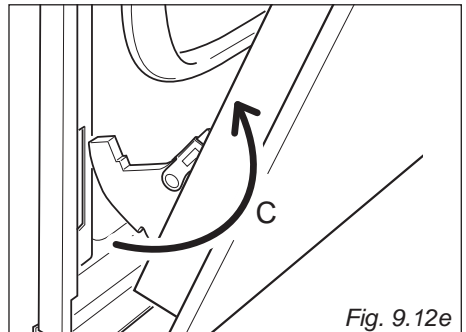

Fig. 9.12e
- Withdraw the hinge hooks from their location following arrow "C" (fig. 9.12e).